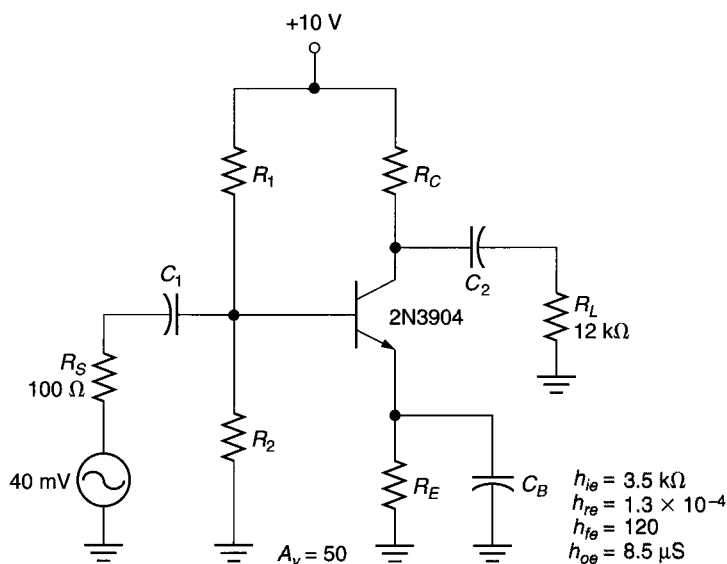

FIGURE F.1
**Solution:** A model circuit for this example is shown in Figure F.1. Along with the circuit, this figure contains the  $h$ -parameters for the 2N3904 at  $I_C = 1 \text{ mA}$ . First, the required output compliance from the amplifier is found by converting the value of  $v_{\text{out}}$  to a peak-to-peak value. The value of  $v_{\text{out}}$  is found as